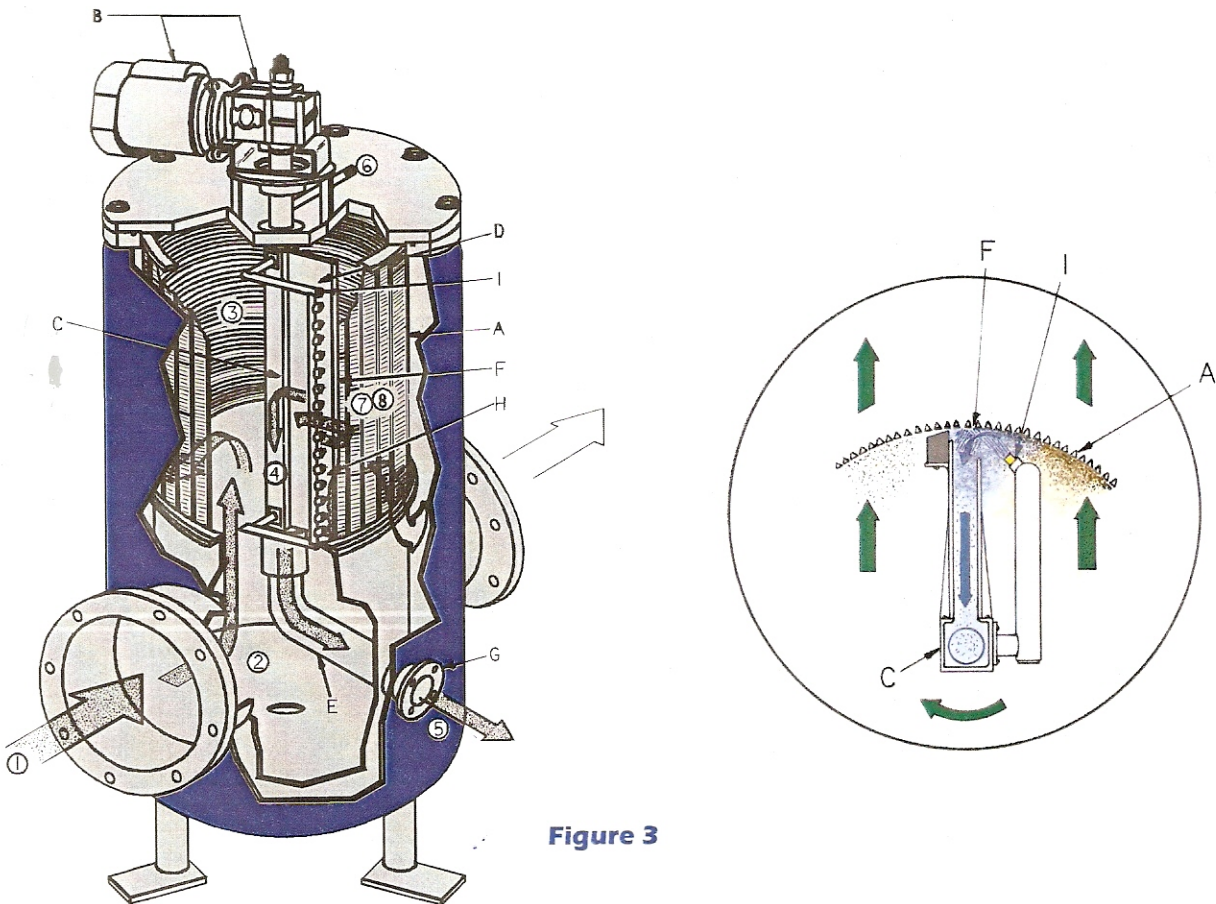

Figure 3
1. Debris laden fluid enters through inlet to inner chamber (Figure 3).
2. Dirty fluid flows upward to the strainer element (A).
4. During backwash or cleaning cycle, the motor/gear reducer (B) is engaged and drives the hollow drive shaft (C) and hollow port (D) around the inner circumference of the strainer element.
5. The backwash assembly (C), (D), and (E) are opened to atmospheric pressure by opening the backwash control valve (Not shown).
6. The external source of fluid is introduced by opening the control valve (Not shown) connecting the spray nozzles (J) at the
- leading edge (F) of the backwash assembly.
7. A "Jet" spray action occurs at the straining element inside surface (See insert) in addition to the flow reversal at the port/straining element interface (H).
8. Debris is effectively removed from the full length of the straining element by a vigorous "Hyper-Jet" fluid flow into the hollow port; down the hollow drive shaft and out the backwash outlet (G).